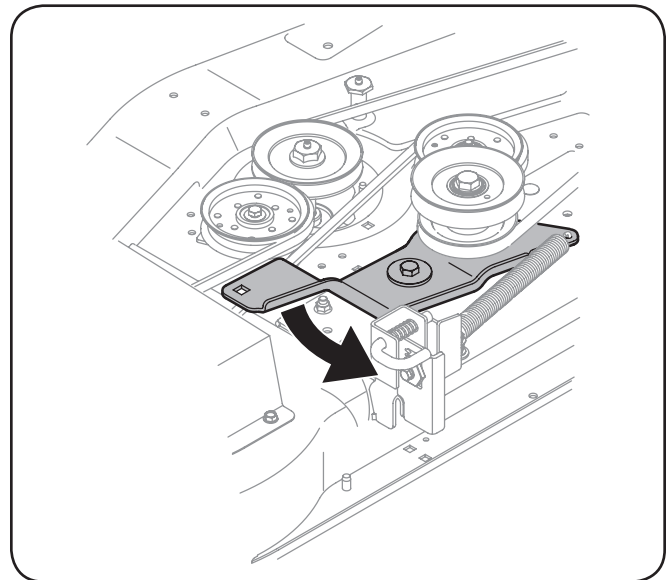

Figure 7-3
4. Pivot the wrench rearward to move the deck drive pulley forward. See Fig. 7-3.
- Pivot the wrench rearward to move the deck drive pulley forward. Refer to Fig. 7-3
4. Pivot the wrench rearward to move the deck drive pulley forward and relieve tension on the deck belt. See Fig. 7-3.